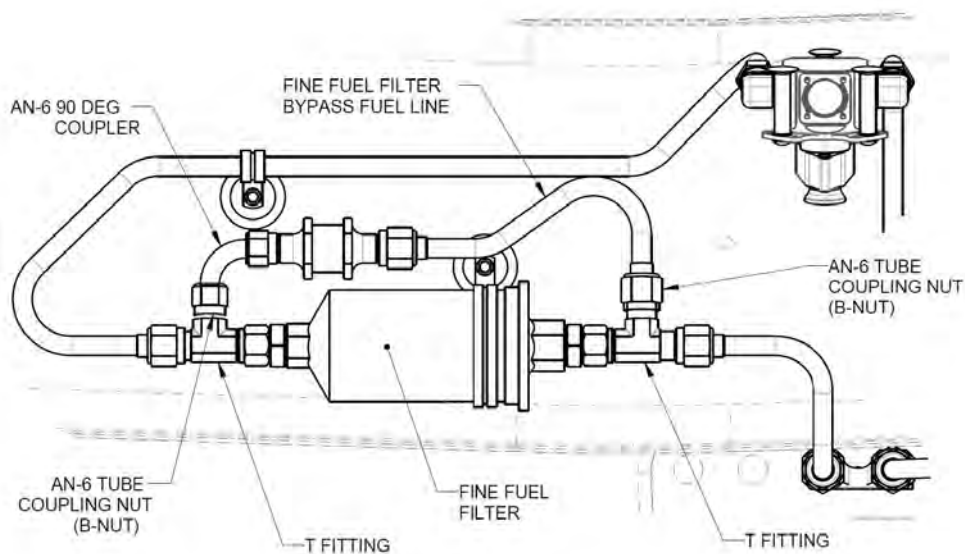

FIGURE 11-28
4. Loosen the AN-6 B-nut at the top of both T Fittings. (See Figure 11-28.) Catch the fuel as it leaks from the joint.
4. Install the Upper Fuel Check Valve Subassembly into the aircraft. (See Figure 11-28.)